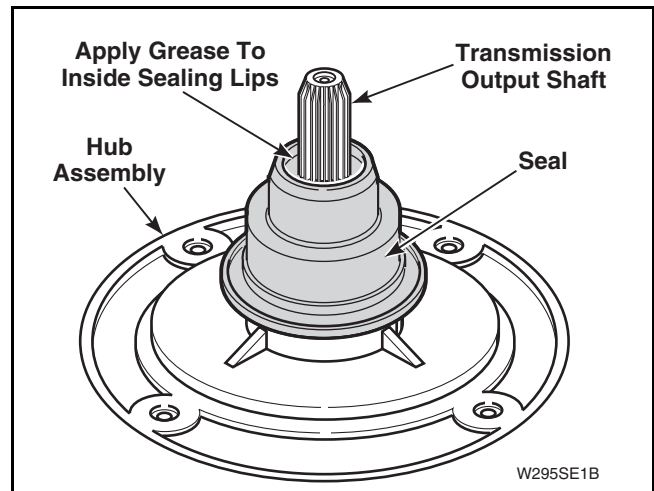

Figure 17
- l. Lubricate new seal with liquid soap or soapy water to aid in assembly of seal onto hub. Refer to *Figure 17*.
- m. Apply a small amount of supplied grease, No. 36765P, to inside sealing lips of seal. Refer to *Figure 17*.